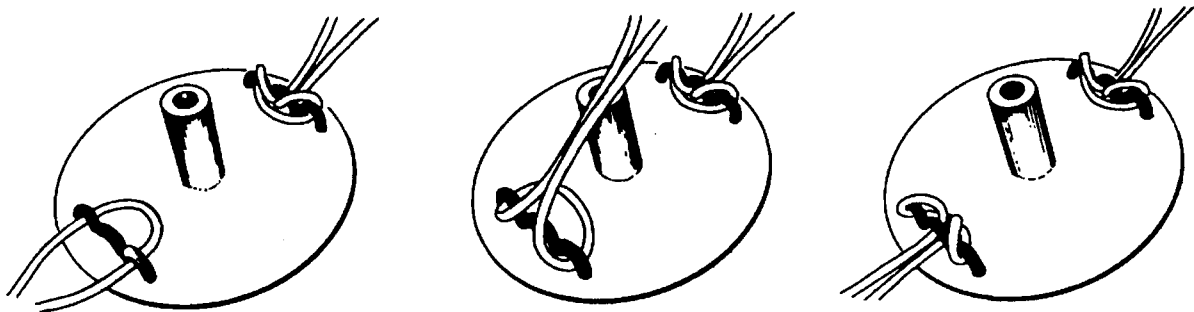

Figure 19
- Another method is shown in Figure 19.
- You can also try a method opposite of that illustrated in Figure 19. Push the cord ends IN through the two end holes in the trimmer head plate. The bottom of the U formed by the cord should be toward the outside. Next, pull the two ends back through the middle hole, then UNDER the bottom of the U and pull them tight.